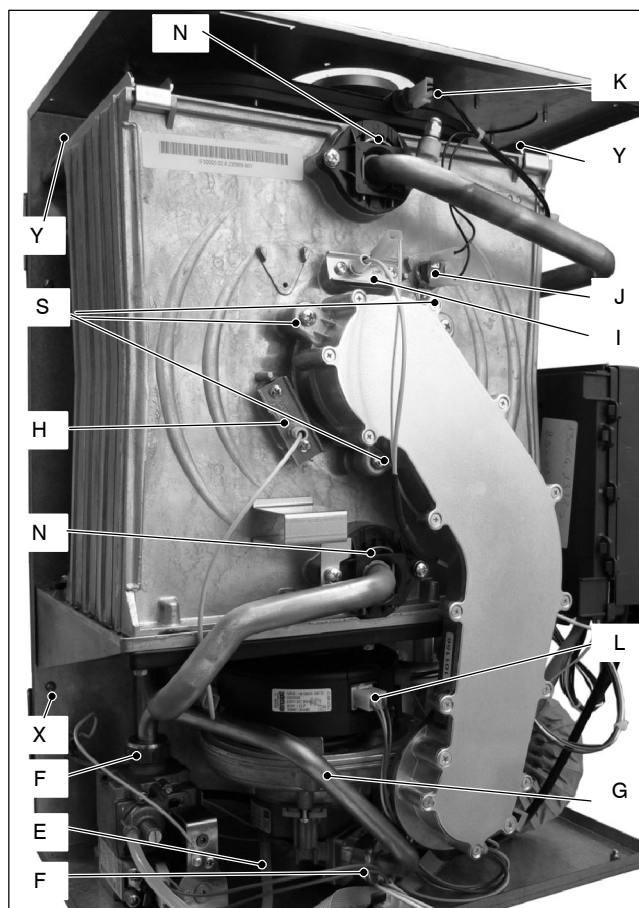

Fig. 5.2
- 5 Disconnect the rubber pipe *E* (Fig. 5.2).
- 15 Remove the forks *N* (Fig. 5.2).
- 22 Loosen the screws *X* (Fig. 5.4 – Fig. 5.2)
- 23 Unscrew the screws *Y* (Fig. 5.2).
- 24 Remove the Condensing heat exchanger slightly move it upwards, turn it frontwards freeing it from the below screws *X* (Fig. 5.4 – Fig. 5.2) and then extract it forwards.
Ensure to tighten the screws *S* – Fig. 5.2 firmly